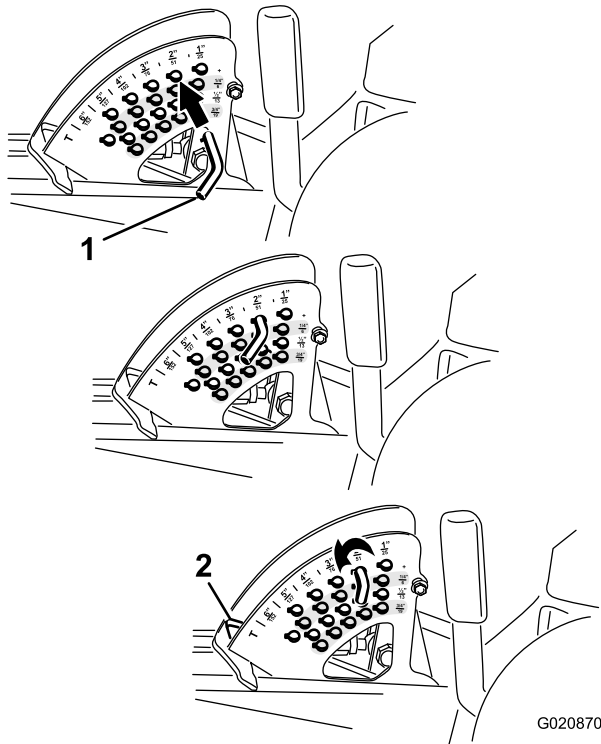

Figure 20
Note: To lock the mower deck in a raised position, raise the deck past the 6 inch (15 cm) position, remove the height of cut stop pin (refer to Adjusting the Height-of-Cut (page 26)), and place the pin in the 6 inch (15 cm) height-of-cut position (Figure 20).
2. To adjust, rotate the stop pin until the roll pin in it lines up with the slots in the holes in the height-of-cut bracket and remove it (Figure 20).
3. Select a hole in the height-of-cut bracket corresponding to the height-of-cut desired, insert the pin, and rotate it down to lock it in place (Figure 20).
Note: There are 4 rows of hole positions (Figure 20). The top row gives you the height of cut listed above the pin. The second row down gives you the height listed plus 1/4 inch (6 mm). The third row down gives you the height listed plus 1/2 inch (12 mm). The bottom row gives you the height listed plus 3/4 inch (18 mm). For the 6 inch (15.8 cm) position there is only one hole, located in the second row. This does not add 1/4 inch (6 mm) to the 6 inch (15.8 cm) position.